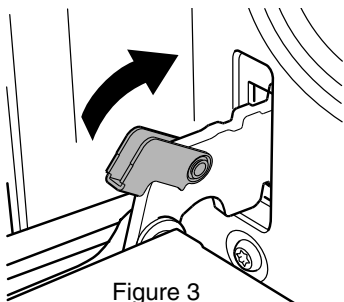

Figure 3
- Push back the buckle at the door hinge forward. (Figure 3)